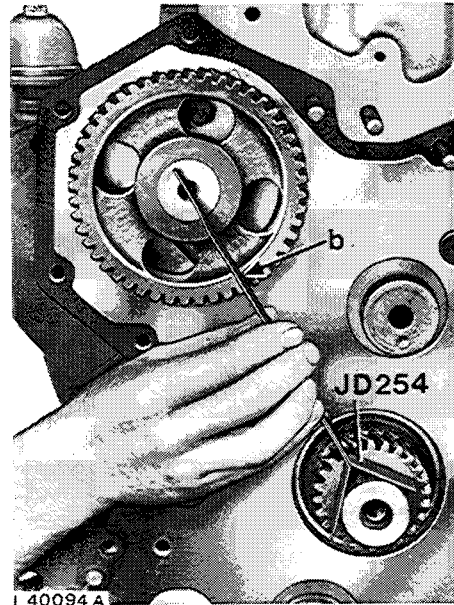

Fig. 10 — Timing Camshaft Gear by Means of Timing Tool No. JD 254
6. Use timing tool No. JD 254 to align timing mark "b" on camshaft gear (fig. 10) with center of crankshaft.